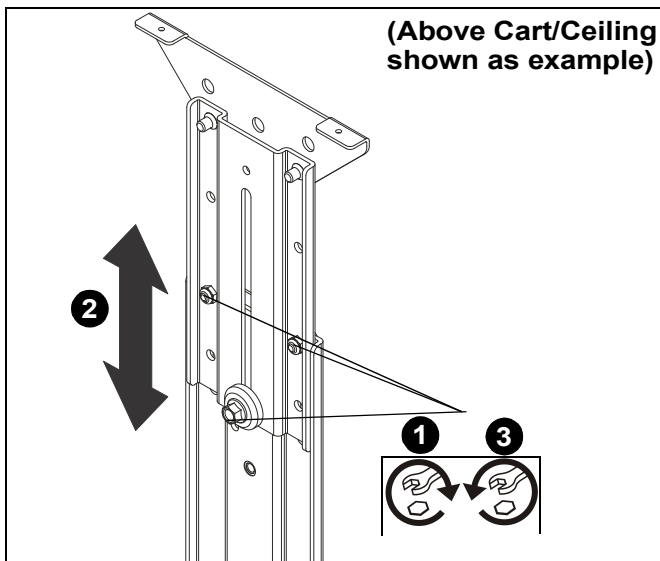

Figure 23
1. Loosen hardware used to attach main bracket (B) to upright bracket (A). (See Figure 23)
2. Adjust shelf height as desired. (See Figure 23)
3. Tighten hardware used to attached main bracket (B) to upright bracket (A). (See Figure 23)